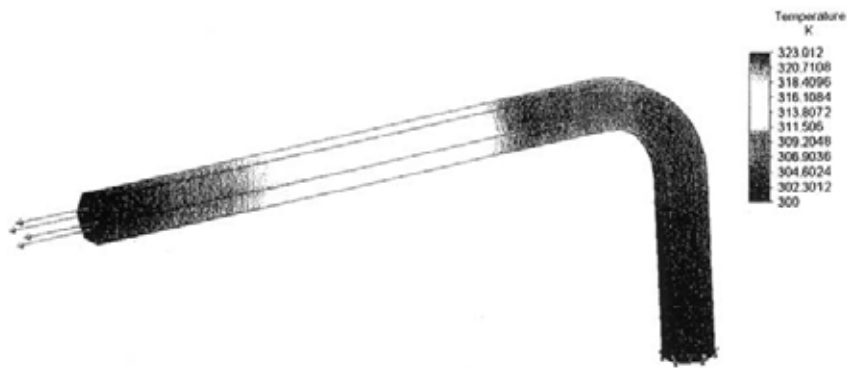

**Figure 1:** Original Model with forces
- 13.44** The Allen Wrench, shown in Figure 1, is exposed at one end to at temperature of  $300 \text{ K}$ , while the other end has a heat flux of  $10 \frac{\text{W}}{\text{m}^2}$ . Determine the temperature distribution throughout the wrench. It has a thermal conductivity of  $43.6 \frac{\text{W}}{\text{m} \cdot \text{K}}$  and a specific heat capacity of  $0.000486 \frac{\text{J}}{\text{g} \cdot \text{K}}$ .